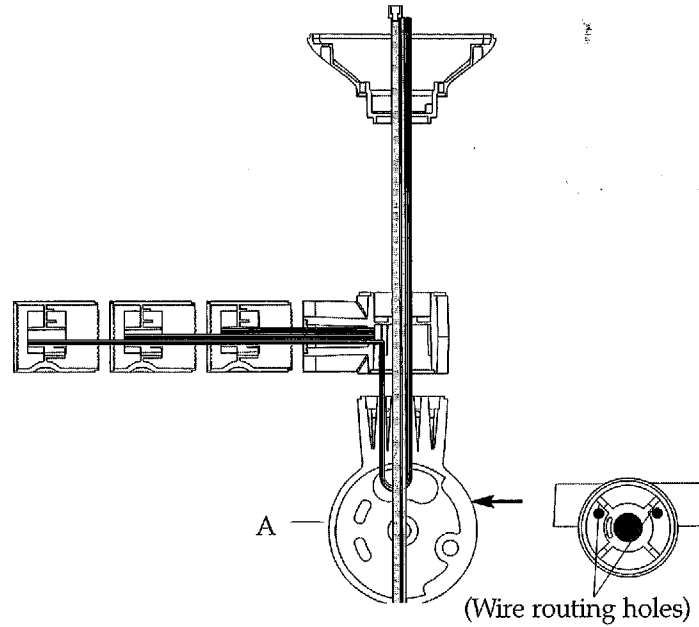

Figure 106. Wire routing for the electric holder assembly. (A) pivot
1. Route the holder wires down through the small holes of the pivot, and back up through the center of the pivot (see Figure 106).